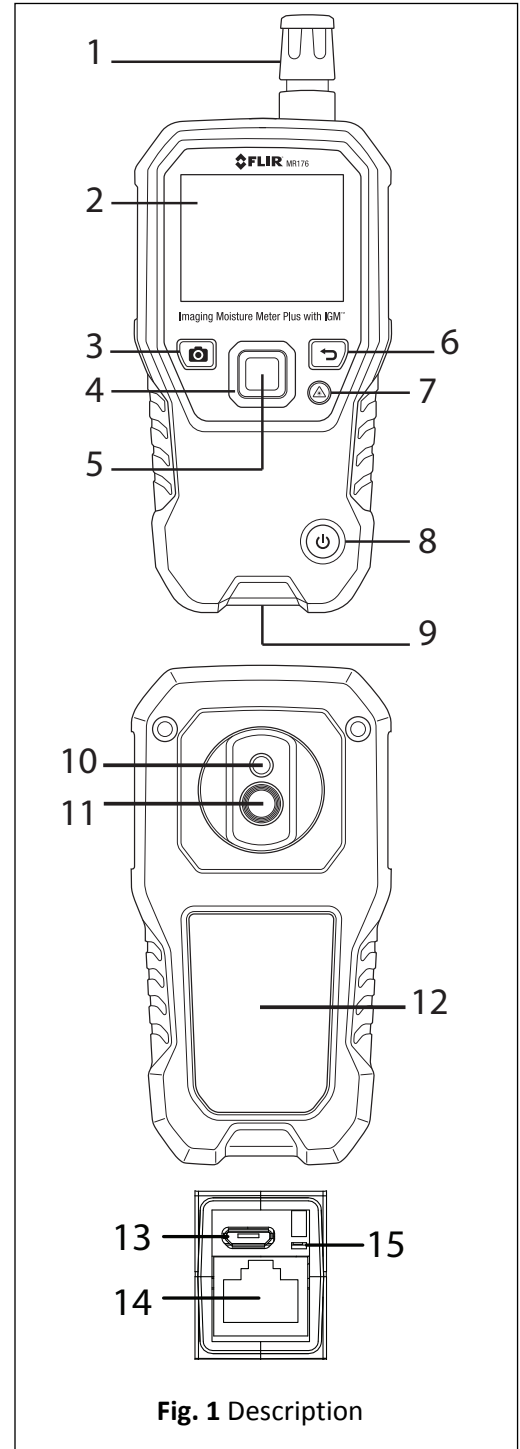

Fig. 1 Description
- For Fig. 1 at right, see the descriptions below: